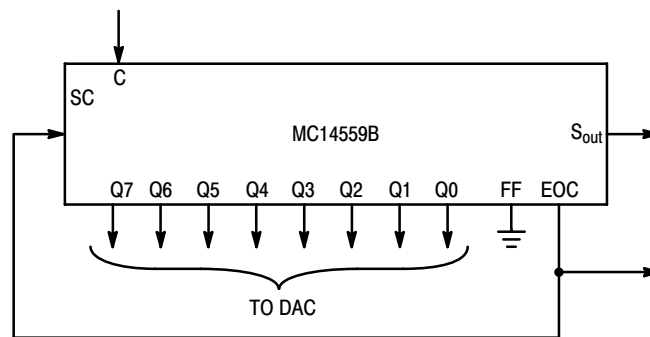

Figure 3. Continuously Cycling 8–Bit ADC
**Continuously Cycling 8–Bit ADC (Figure 3)**